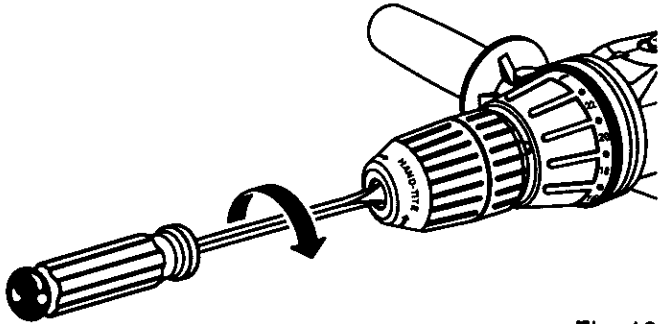

Fig. 16
- Open chuck jaws and remove allen wrench. Remove the chuck screw by turning it in a clockwise direction. *See Figure 16.* **Note:** The screw has left hand threads.